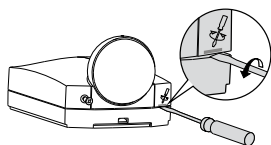

Fig. 6
2. To insert the “-” head screwdriver blade into the gap between front cover and bottom case, then rotate anti-clockwise 90° to detach the front cover (See Fig. 6).